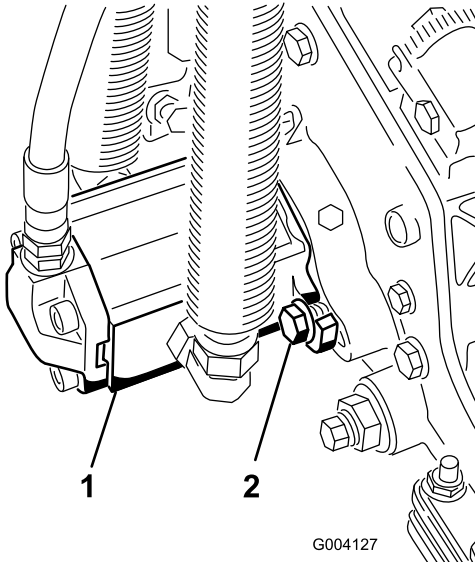

Figure 32
3. Install the motor by rotating it clockwise so that the motor flanges clear the bolts (Figure 32).